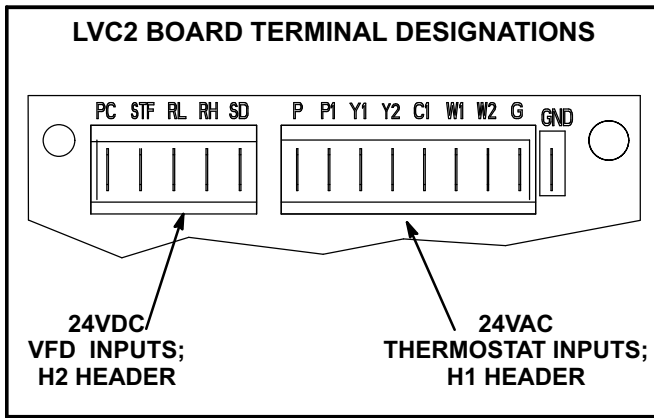

FIGURE 18
- 3- Check for 24VAC signal at the thermostat blower input (G to GND terminal). See figure 18.